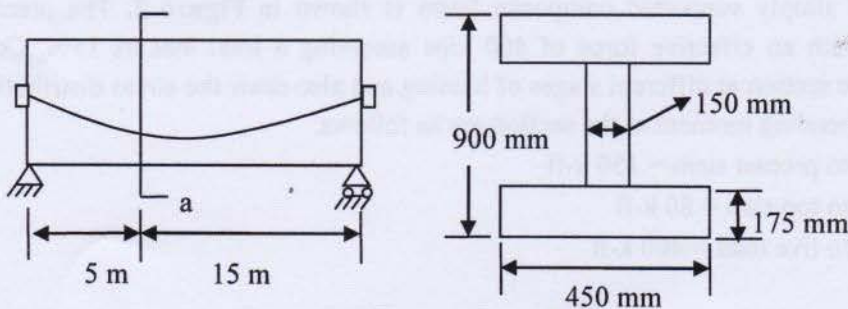

Figure: 3
- (b) Show the stress distribution in a composite section at different stages of loading with sketches. (5)
3. A simply supported concrete beam of 12 m span is post tensioned with 860 mm^2 of high-tensile steel to an initial prestress of 1000 MPa. If $E_c = 36000 \text{ MPa}$, determine the initial deflection at midspan due to prestress and the beam's own weight. Cross section of the rectangular beam is of 300 mm (width) \times 500 mm (depth). The c.g. of cable is 150 mm from bottom at midspan and 300 mm from top at end of section. Also estimate the deflection after 2.5 months assuming creep factor of 1.75. Given that 15% loss of prestress occurs and a concentrated load of 45 kN is applied at midspan immediately after prestressing. (15)
4. Evaluate the shear strength for section a-a for the beam shown in Figure 3. The symmetric I-shaped non-composite section spans 20 m and it is adequate for $w_u = 85 \text{ kN/m}$. Given, $F = 1860 \text{ kN}$, $f'_c = 50 \text{ MPa}$, $w_d = 6.5 \text{ kN/m}$ (beam weight), and $e = 340 \text{ mm}$ at section a-a. (20)